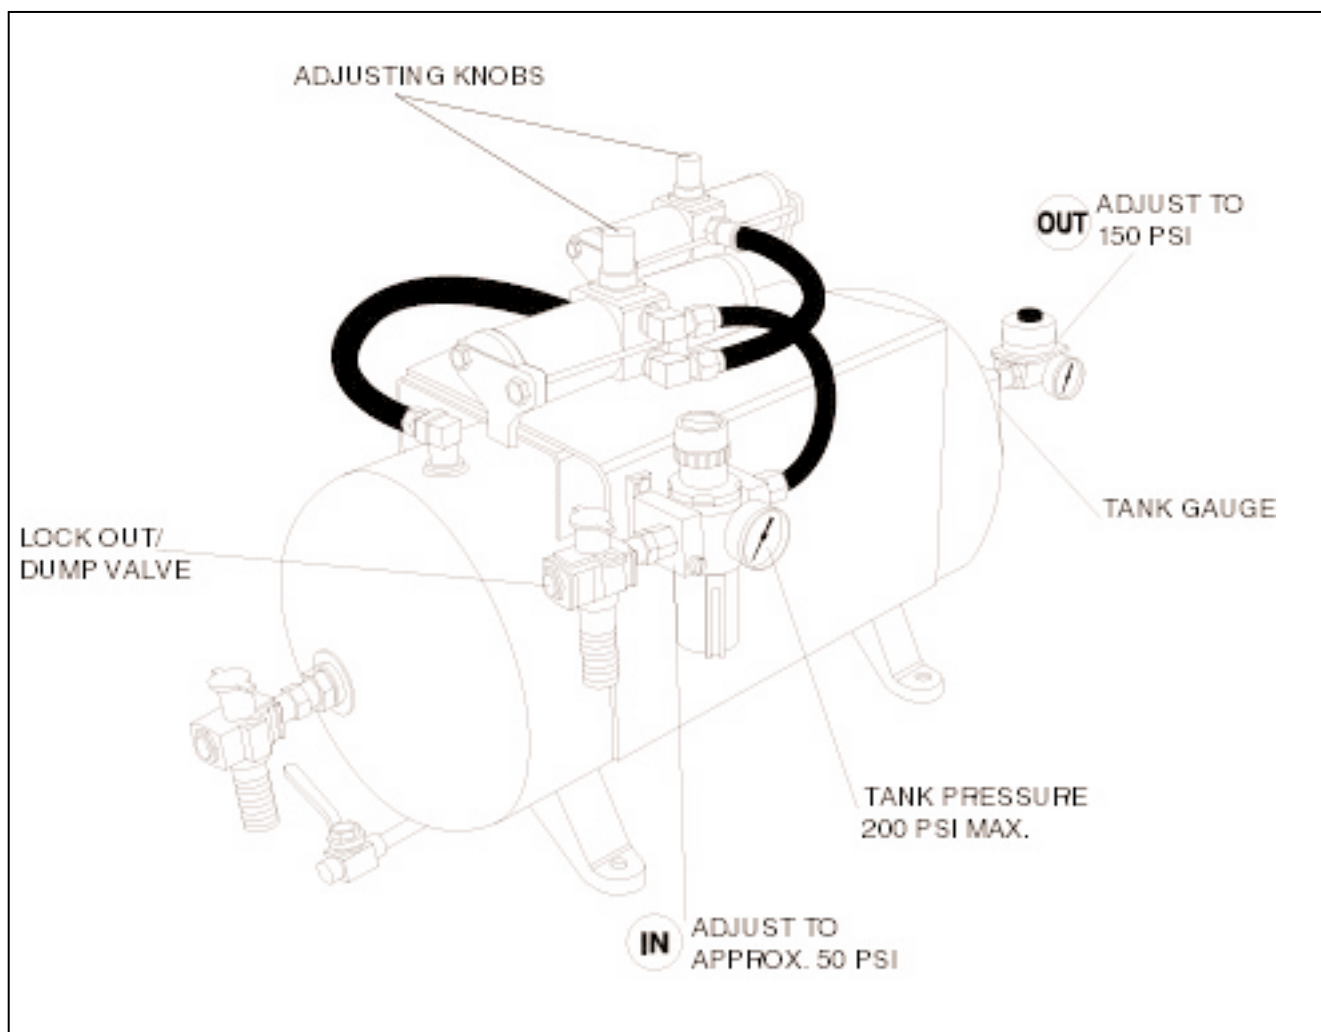

Figure 16.5 AMPLIFIER AIR CONNECTIONS.
The head clamp air system is fed with air from an air amplifier (see figure 16.5). Air pressure on raise/lower cylinder in the head clamp air system must be adjusted each time a new mold is installed on the stripper head frame. To adjust the air pressure, follow this procedure:
2. Adjust tank air pressure at 200 PSI max. This is done by setting the input regulator to approx. 50 PSI and adjusting air amplifiers (with the adjusting knobs). Refer to figure 16.5.
3. Adjust air pressure coming out from the air tank to 150 PSI (see figure 16.5).